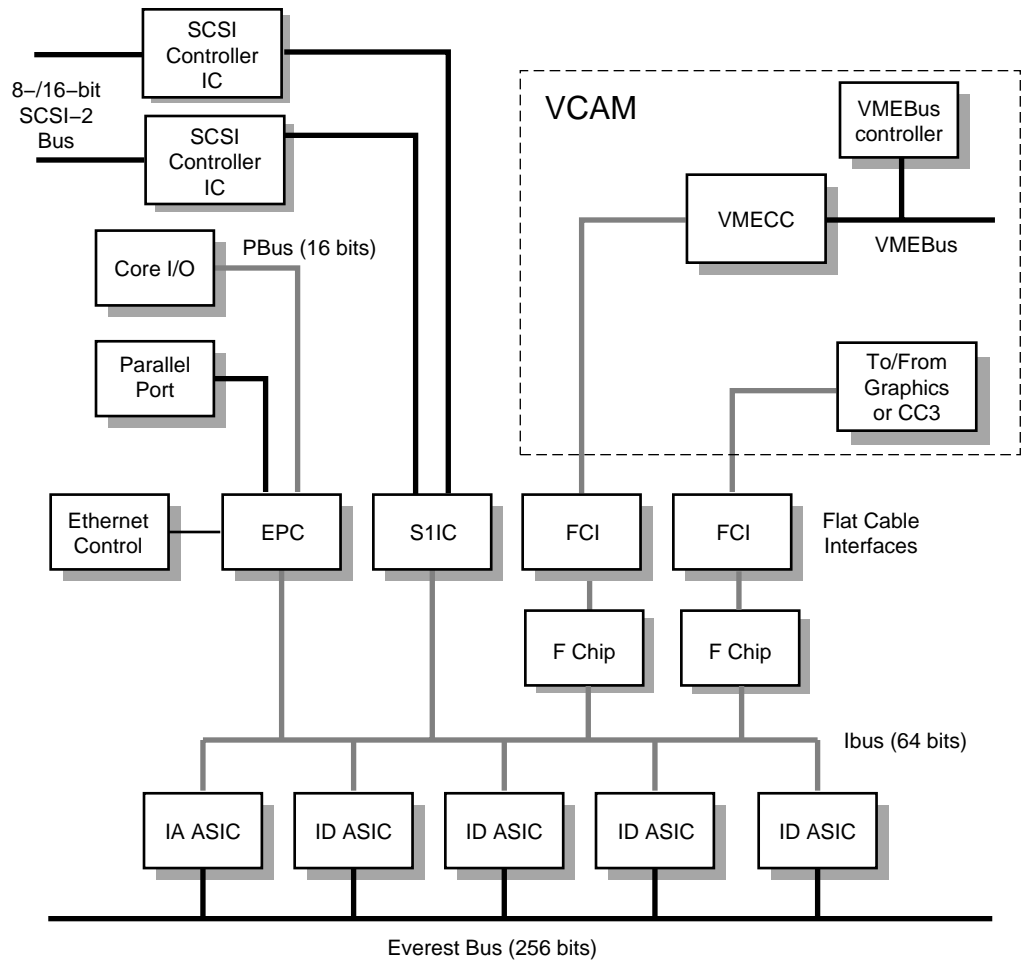

Figure E-2 IO4 Base Board Functional Block Diagram
See Figure E-2 for a functional block diagram of the IO4 board.
Communication with the VME and SCSI buses, the installed set or sets of graphics boards, and Ethernet takes place through the 64-bit Ibus (see Figure E-2). The Ibus interfaces to the main system bus, the 256-bit Ebus, through a set of interface control devices, an I address (IA) and, four I data (ID) ASICs. The ID ASICs latch the data, and the IA ASIC clocks the data from each ID to the flat cable interface (FCI) through the F controller (or F chip).